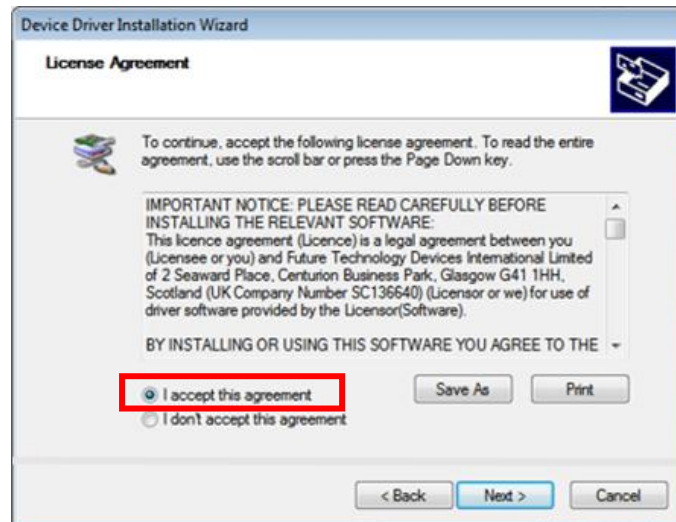

Fig. 3.11
3)Choose 'I accept the agreement' , Click 'Next'(Fig. 3.11).